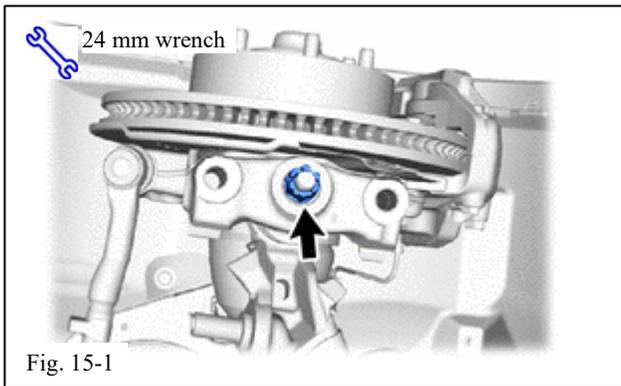

Fig. 15-1
- (a) Identify the correct lower ball-joint attachment for the correct side of the vehicle. Confirm by locating the “L” or “R” mark on the end faces of the TRD lower ball-joint attachment (Fig. 15-1).